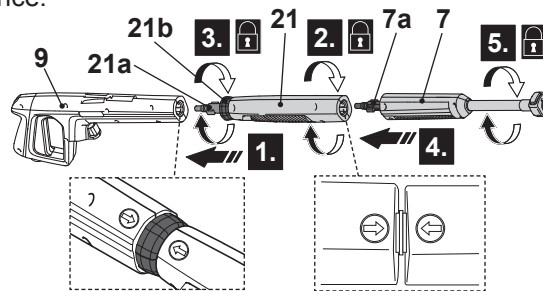

Fig. 11
1. Always attach the short extension lance (21) when using the patio brush.
2. Align and insert the tongues (21a) of the short extension lance (21) into the grooves of the spray gun (9) connection port. (Fig. 11, step 1).